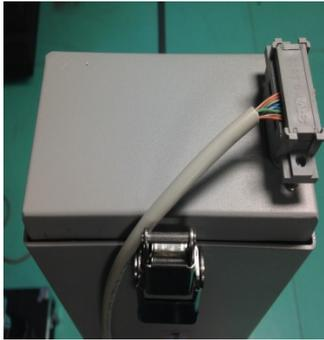

Figure 2
- I. Connect the D-Connector cable to the D-Connector cable adapter in the TOP end of each Detector Unit (Figure 2).